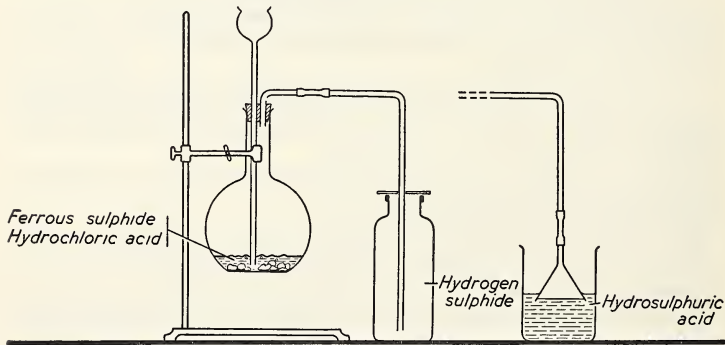

Fig. 65. The laboratory preparation and collection of hydrogen sulphide.
1. Arrange the apparatus as shown in Figure 65. Put several pieces of ferrous sulphide into the flask, and add dilute hydrochloric acid through the thistle-tube until the ferrous sulphide is well covered.